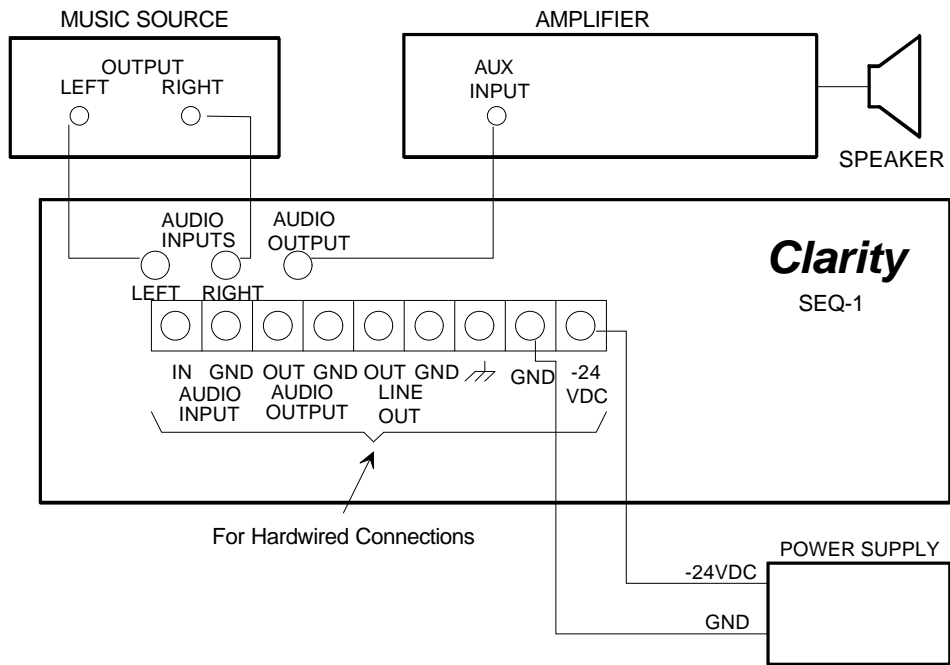

FIGURE 1 - MUSIC SOURCE CONNECTIONS
Connections are accomplished utilizing (3) phono jacks (2 input, 1 output) and/or (9) screw terminals. Only qualified service personnel should install the SEQ-1. See Figures 1 and 2 for actual connections. All connections should be made and double checked before DC power is supplied to the unit.